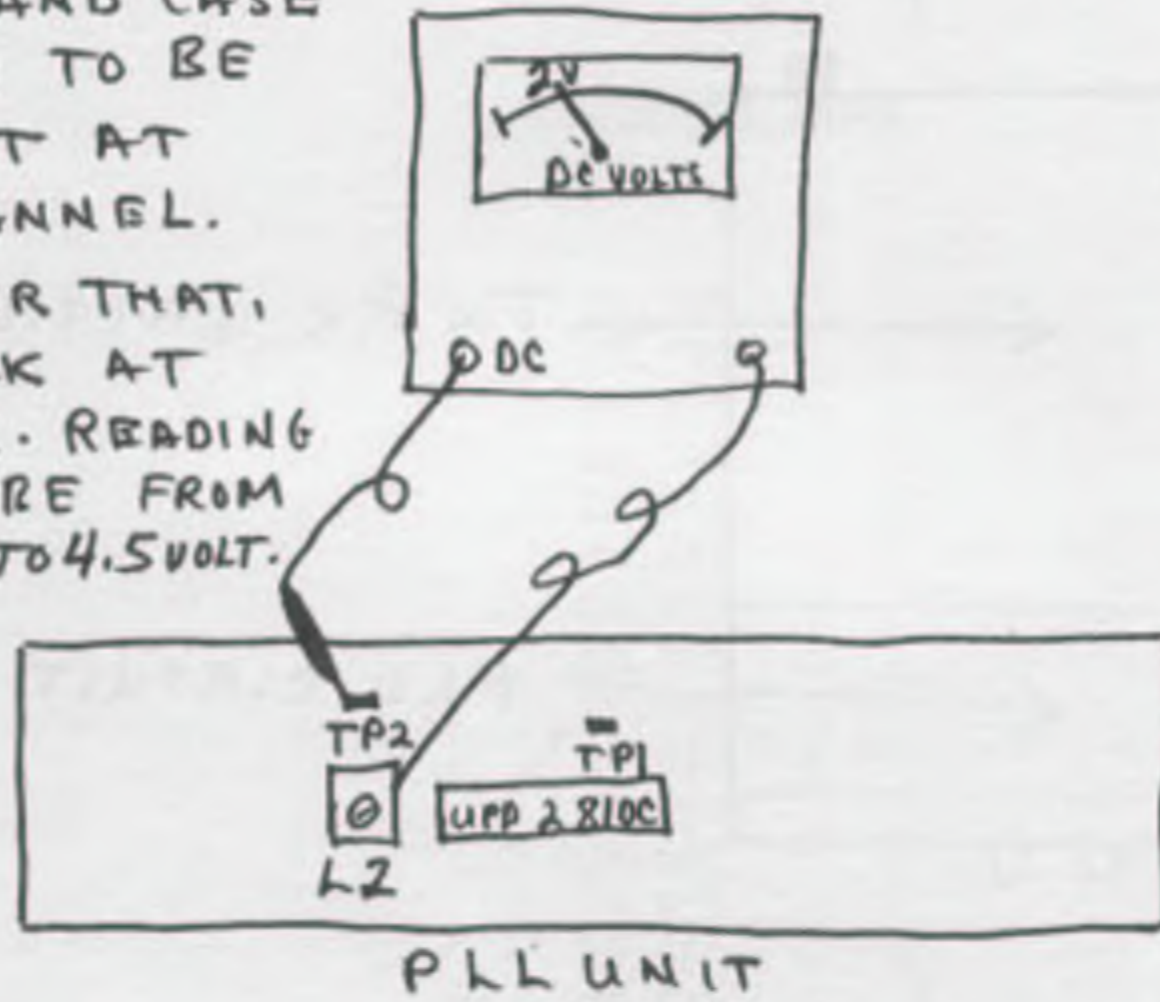

FIG 3 (TUNE UP PLL UNIT) NO1
1. Prepare the tester and connect it between test point 2 (TP2) and any minus (-) ground (earth). Next, set to channel 1 position - the tester range should be 2 - 10 Volts (DC). "L2" should be tuned up as the tester indicates 2 Volts. As you are tuning up the coil, the channels should be checked individually 1 thru 40 so that as the coil is being tuned, the tester will show a balanced change from 2 Volts to about 4.5 Volts (DC) on each of the channels. (see figure 3).
1.1 Re-tune the coils, L208 and L209 and turn VR10 shown as fig. 3. Then you get 5 to 6W.
Turn VR1 shown as fig. 3.